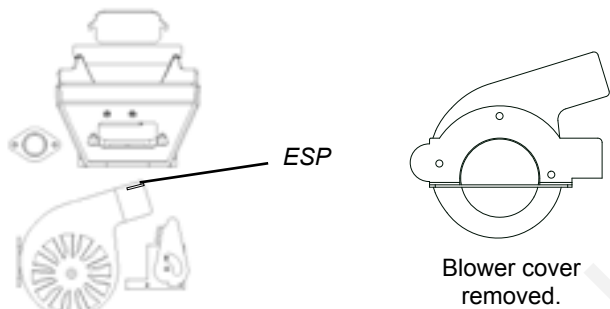

Fig. 30
9. Use a brush to clean the flue, being careful not to damage the ESP, see Fig. 30. The flue goes straight through into the vent pipe (Fig.27) therefore, the vent pipe can also be cleaned, to some extent, through the flue outlet.